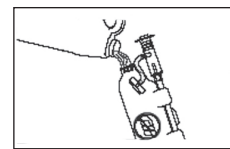

Figure 3
4. Add cleaning solution (Figure 3). See manufacturer's instructions for